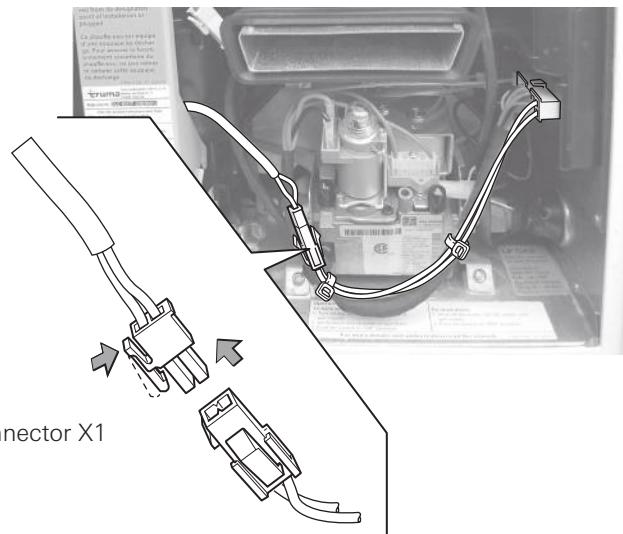

Fig. 10
- Unplug the connector X1 (see Fig. 10).